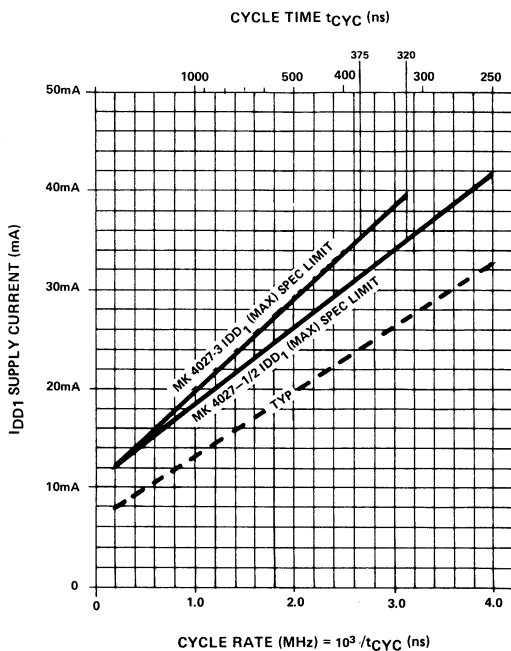

Figure 1. Maximum  $I_{DD1}$  versus cycle rate for device operation at extended frequencies.
- Current is proportional to cycle rate.  $I_{DD1}(\max)$  is measured at the cycle rate specified by  $t_{RC}(\min)$ . See figure 1 for  $I_{DD1}$  limits at other cycle rates.